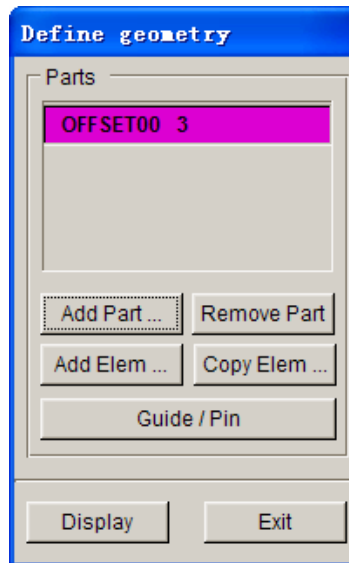

Figure 85: Define geometry dialog box
20. Click **Exit** button to dismiss the **Copy Elements** dialog box. Now, a new part named **OFFSET00** is added to the list of tools geometry. See Figure 85.